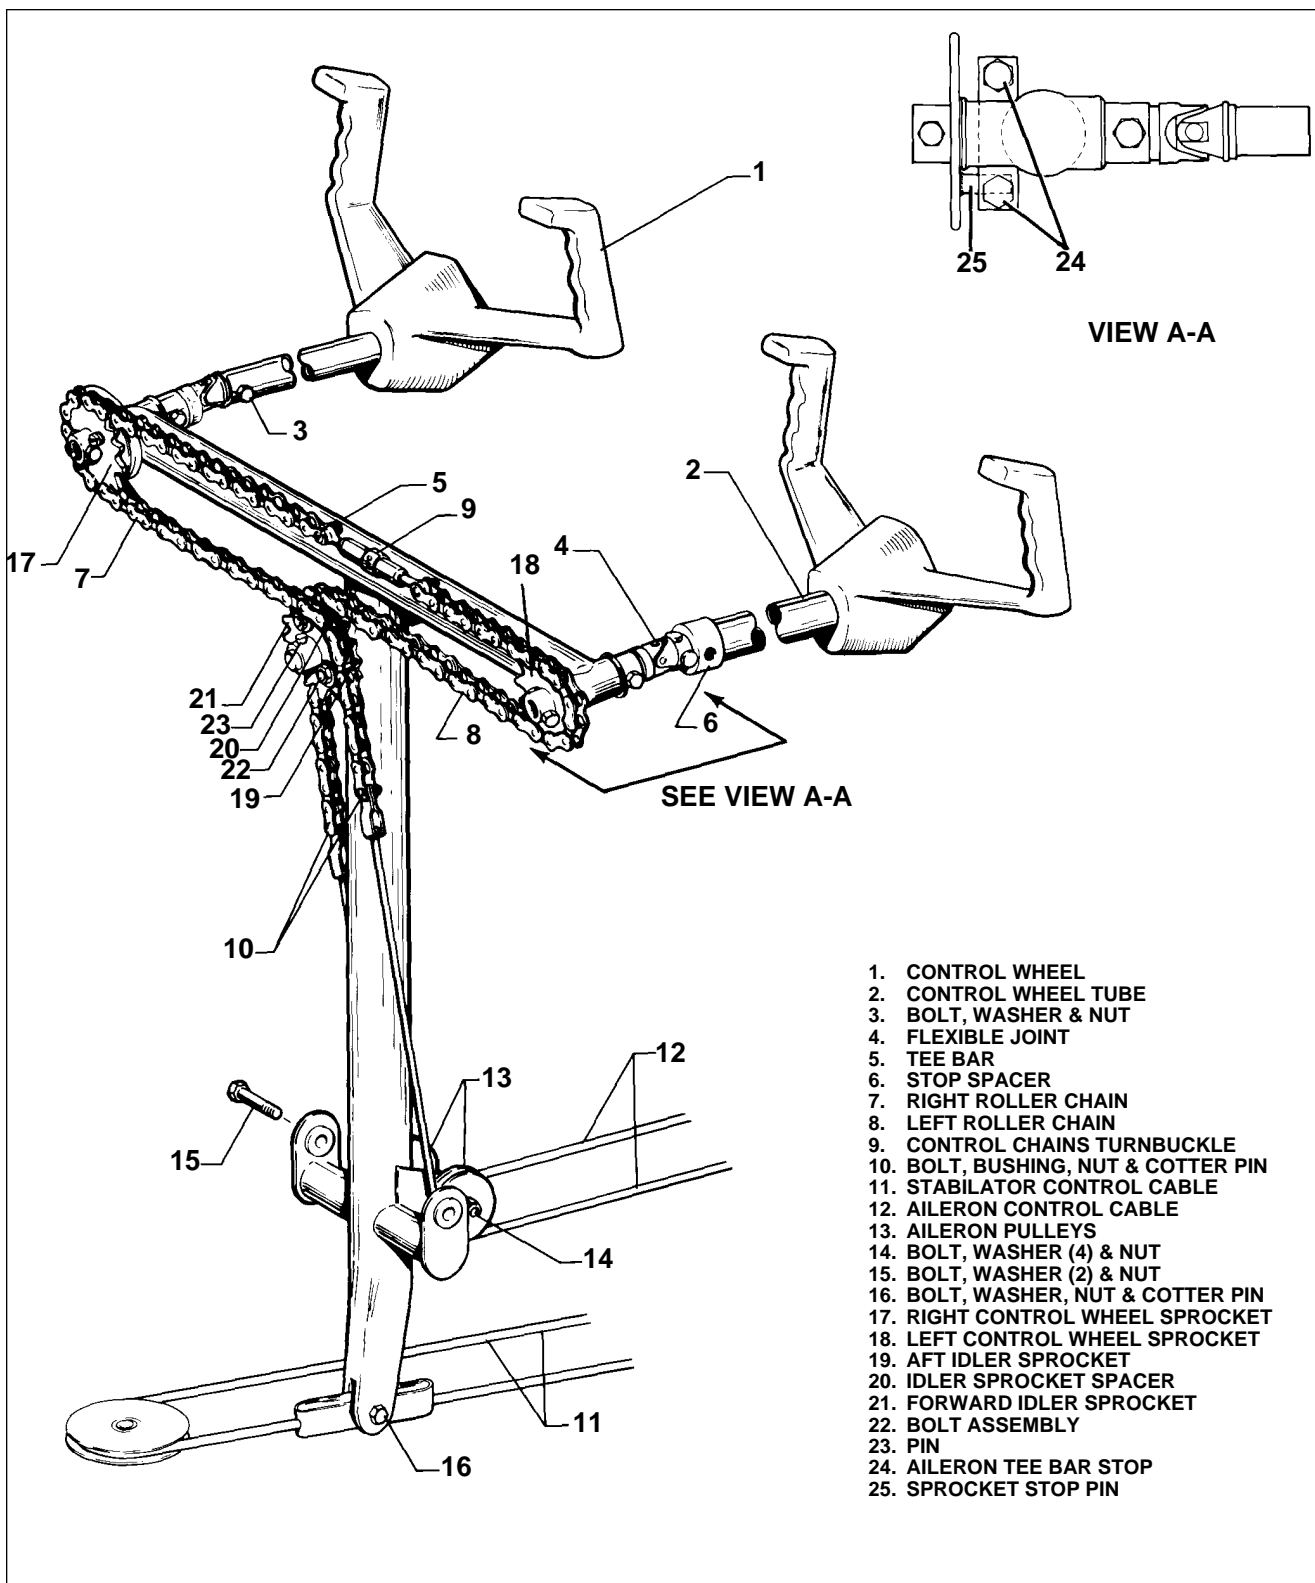

Figure 27-6. Control Column Installation
1. Removal Of Control Column Assembly (Refer to Figure 27-6.)
3. Installation Of Control Column Assembly (Refer to Figure 27-6.)
- (1) Insert control wheel tube through instrument panel.
- (2) Install autopilot systems wiring in the control tube and route the wires through hole in the forward side of tube and out the small hole in forward side. Position rudder grommet in the hole in the side of tube.
- (3) Install stop on left control tube.
- (4) Connect control wheel tube to the flexible joint of tee bar assembly. If the control cables or chains have not been removed or loosened, place ailerons in neutral and install control tube on the flexible joint to allow control wheel to be neutral. Install and tighten bolt, washer, and nut.
- c. To Install Flex Joint Replacement (Refer to Figures 27-6 and 27-7)
- (1) Carefully lay out location for hole to be drilled in flex joint tube to match hole in control column shaft.
- (2) Using a #5 (0.2055) drill bit, drill hole through flex joint tube at location determined in paragraph (1).
- (3) Ream drilled hole, in steps, with a #1 reamer, checking to insure proper depth for taper pin and sufficient pin thread protrusion for proper installation.